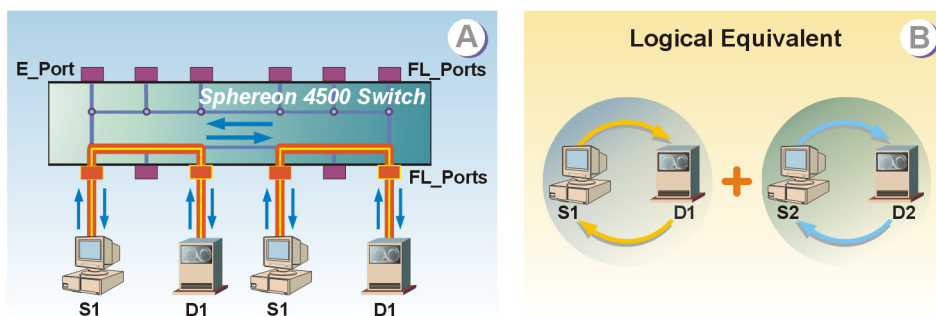

Figure 3-2 Switched Mode Operation and Logical Equivalent
When set to switched mode, a switch bypasses full loop arbitration and enables frame transmission through multiple point-to-point connected pairs. Switched mode operation and its simplified logical equivalent are illustrated for a Sphereon 4500 Fabric Switch in Figure 3-2.
Part (A) of Figure 3-2 shows server S_1 connected to device D_1 through a switched pair of FL_Ports communicating at 1.0625 Gbps. Server S_2 is connected to device D_2 through a second switched pair of ports, also communicating at 1.0625 Gbps. Because of opportunistic bandwidth sharing, the two switched pairs effectively increase the switch bandwidth to 2.1250 Gbps. The remaining ports are available for switched connection to each other but cannot communicate with servers S_1 and S_2 or devices D_1 and D_2 . Part (B) of Figure 3-2 shows the logical equivalent of this arbitrated loop.